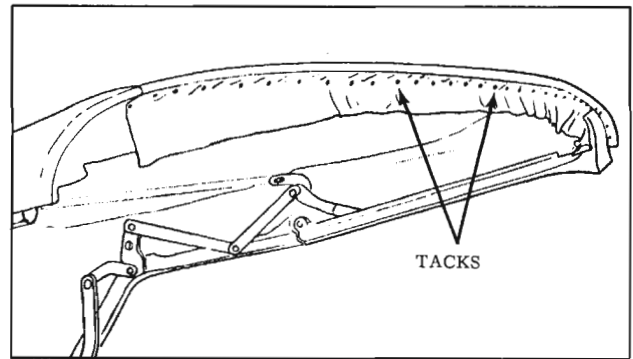

Fig. 16-135 Tacking Trim to Rail
50. Unlock top from windshield header and apply neoprene-type weatherstrip adhesive to tacking area of front roof rail. Pull top trim material slightly forward so that pencil marks are on underside of front edge of front roof rail. Fasten top trim to cemented area and stay tack trim to rail. (Fig. 16-135)